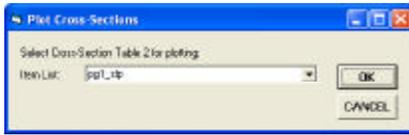

Figure 19
12. Select the name of the appropriate Cross-Section Data Table from the choice list, shown in Figure 19, click at the: